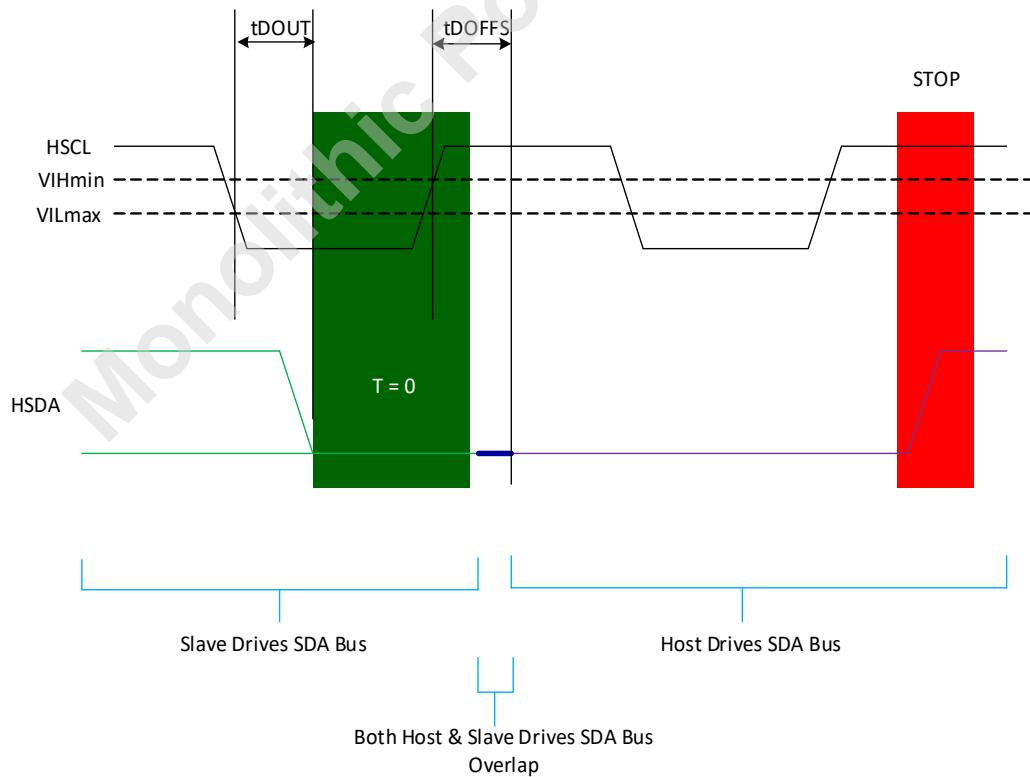

Figure 6 — $T=0$; Slave Ends Read; Host Generates STOP
8. When last byte (i.e MR255) is reached (extreme rare case), the slave device sends T = '0'. See Figure 6 to see how slave device ends the operation followed by Host STOP operation.
7. See Figure 6 to see how slave device ends the operation followed by Host STOP operation.
3. When last byte (i.e MR255) is reached (extreme rare case), the slave device sends T = ‘0’. See Figure 6 to see how slave device ends the operation followed by Host STOP operation.
2. See Figure 6 to see how slave device ends the operation followed by STOP operation
5. When last byte (i.e MR255) is reached (extreme rare case), the slave device sends T = '0'. See Figure 6 to see how slave device ends the operation followed by Host STOP operation.
4. See Figure 6 to see how slave device ends the operation followed by STOP operation
- See Figure 6 to see how slave device ends the operation followed by Host STOP operation.